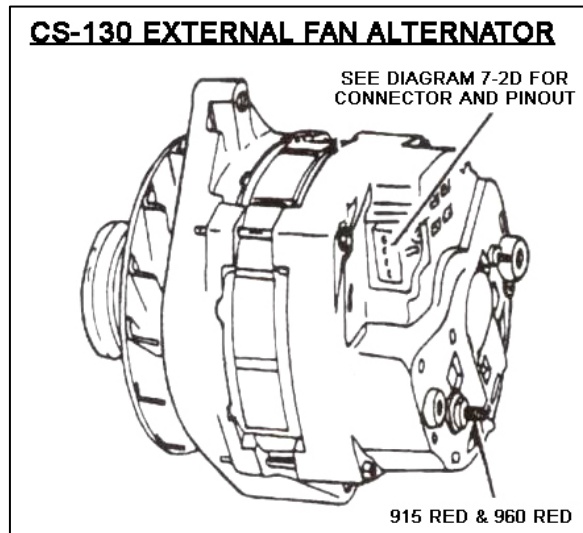

Figure 7-2B CS-130 External Fan Alternator
- 7.2.4 Connect ENGINE SECTION wire #915 (red) to the Alternator Output lug (Bat). Insulate and stow ENGINE SECTION wire #914 (wht). Do not install jumper wire. No wires are connected to Alternator terminals 1 & 2. If alternator output is greater than 65 amps refer to Figure 7-2B and the caution on page 6.